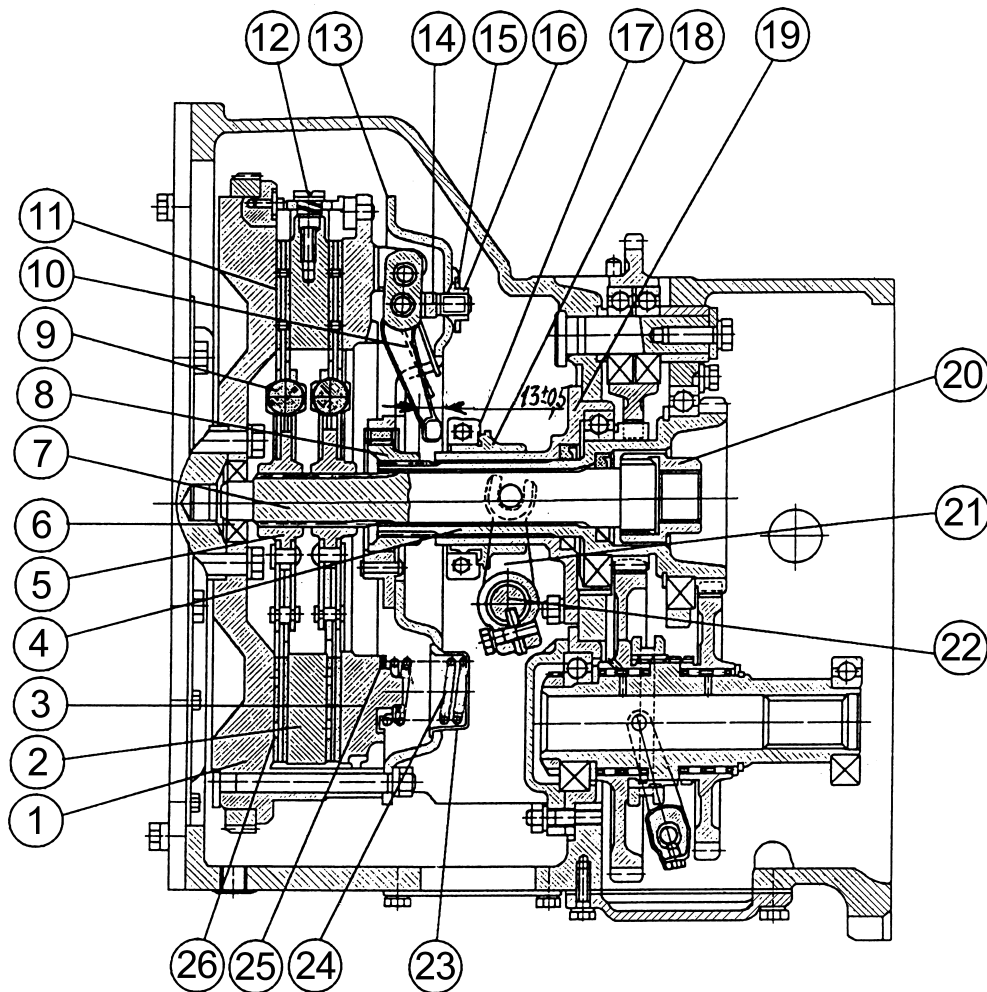
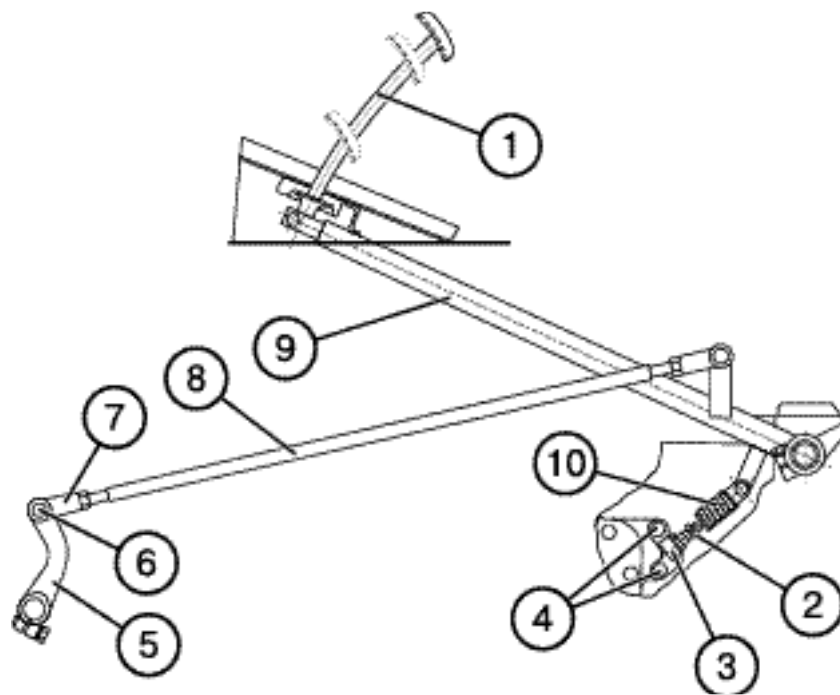
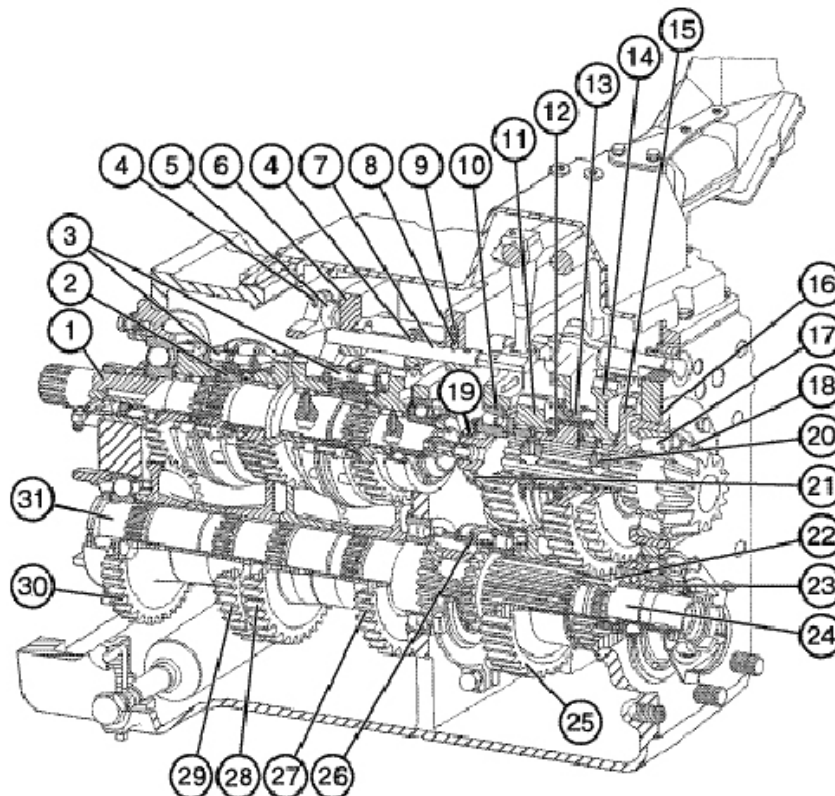
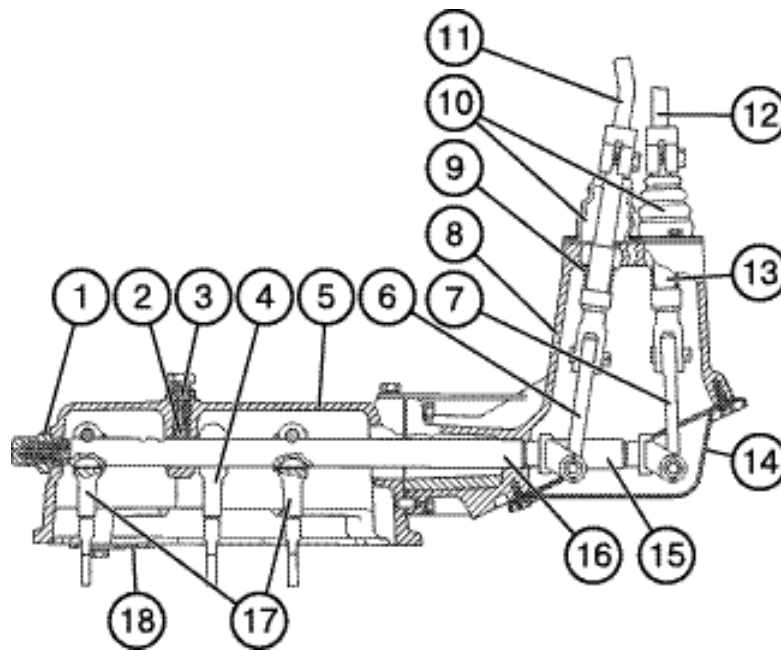

Fig. E-10. Clutch:
Fig. E-11. Clutch control:
Fig. E-12. Transmission gearbox:
Fig. E-13. Synchronized transmission gearbox control mechanism:
The clutch (Fig. E-10) is of friction, double-dry-disk, permanently closed type.
The clutch is disengaged by stepping on the clutch pedal (1) (Fig. E-11) which acts through the linkage (1), (8), (5) onto the retractor (18) (Fig. E-10) and the throw-out bearing (17).
When the pedal (1) is released (Fig. E-11), the clutch is engaged by the pressure springs (24) (Fig. E-10). The spring (10) of the servounit (Fig. E-13) makes the clutch engagement easier and always presses the lever (9) against the cab floor when the clutch is engaged.
With the engine inoperative, the control train functions as a mechanical one (Fig. E-11).
The transmission gearbox (Figs. E-12, E-14) is a 16/8 mechanical-type fixed-ratio
The GB control mechanism (Fig. E-13) comprises the gear-shift and speed-range change-over mechanisms. The gear-shift mechanism is installed in the fork member (6) (Fig. E-12) and in the casings (5) and (8) (Fig. E-13). The engagement is achieved through the lever (7), shaft (15) and arm (4). The dogs (5) and (7) are installed in the fork member (6) (Fig. E-12) with the forks (4) fixed thereto. To exclude simultaneous engagement of two speeds, the locking balls are located between the dogs (5) and (7). To hold the forks (4) in the neutral and engaged posi-